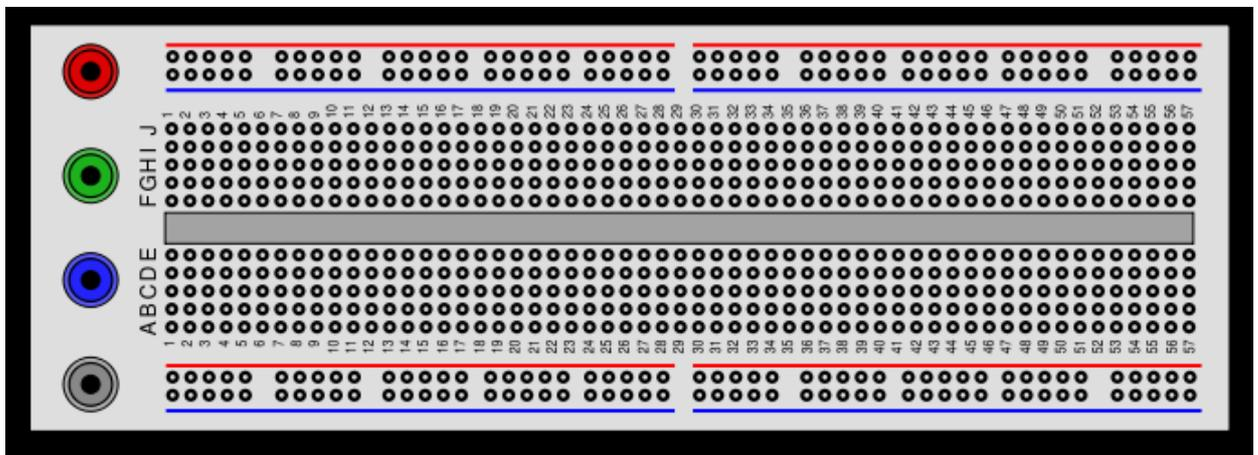
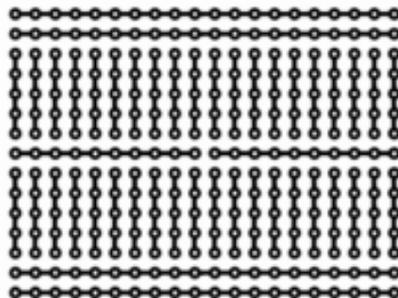

Figure 1 – schematic of breadboard
Figure 2 – electrical schematic of breadboard
The breadboard is internally wired according to the diagramme in Figure 2. The two top and two bottom rows are referred to as bus strips. They are used to provide power and ground to the circuits. The columns (labelled A-J in Figure 1) are used to connect electronic devices.
3. The breadboard has a function generator that is built in. Using a wire, connect the output of the function generator to one of the two top rows of the breadboard (as shown in Figures 1 and 2)
5. Using a resistor connect one end to the bus strip that is connected to the function generator, and the other end to your choice of the breadboard columns (labelled A-J in Figure 1)
6. Connect the capacitor between the breadboard column selected in (5) and also to the bus strip used for the ground connection.
8. Connect the signal wire of the oscilloscope to the breadboard column selected in (5). This is the output voltage.